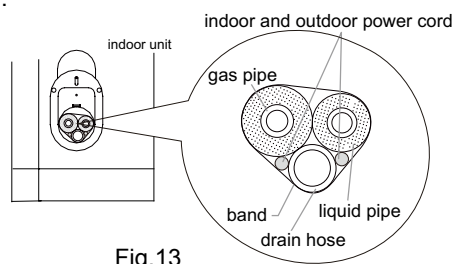

Fig.13
1. Bind up the connection pipe, power cord and drain hose with the band.(As show in Fig.13)